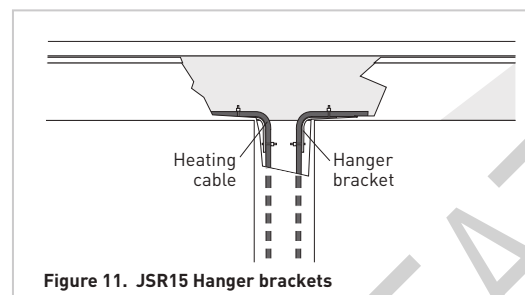

Figure 11. JSR15 Hanger brackets
- Use JSR15 Hanger Brackets at the gutter/downspout transition to protect the heating cable from fraying and from damage from sharp edges and to provide strain relief as shown in Figure 11. Refer to the JSR15 kit instructions for installation details.